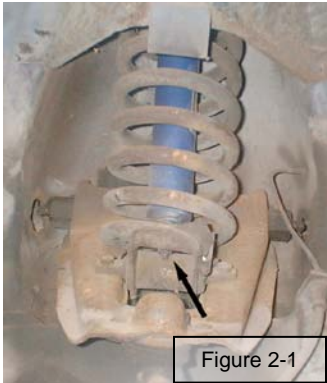

Figure 2-1
3. Unbolt lower shock mount from spring perch (Figure 2-1).